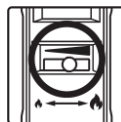

Fig. 1
- Hold torch in upright position with tip facing upward. Place the gas control lever into middle of the setting (fig. 1).